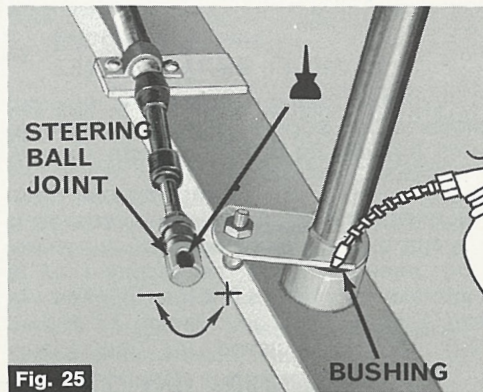

Fig. 25
Lubricate steering column bushing and quick-disconnect ball-joint using light machine oil (See Fig. 25).
The steering mechanism can be adjusted at 2 locations by increasing or decreasing cable length. (See Figs. 25 and 26).
*Note: To properly adjust the steering cable length, it may be necessary to disconnect the ball-joint located at the steering column arm. (See Fig. 25).*
Lubricate steering mechanism. (See Figs. 25 and 26).